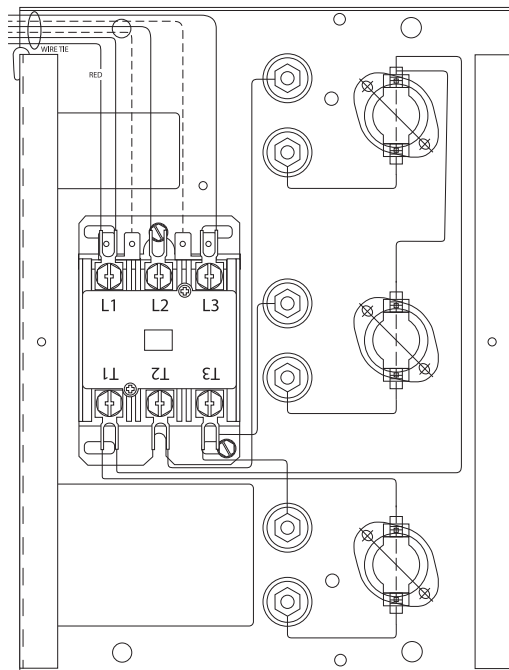

Fig. 12 - Typical Single-Phase Wiring Installed
- a. Connect RED wire provided with kit to Heater Relay (HR) and to L1 as shown.
- c. Using the wire tie provided, fasten the RED wire to heater power wire harness near existing wire tie on heater module. This provides strain relief for the RED wire. (See Fig. 12).